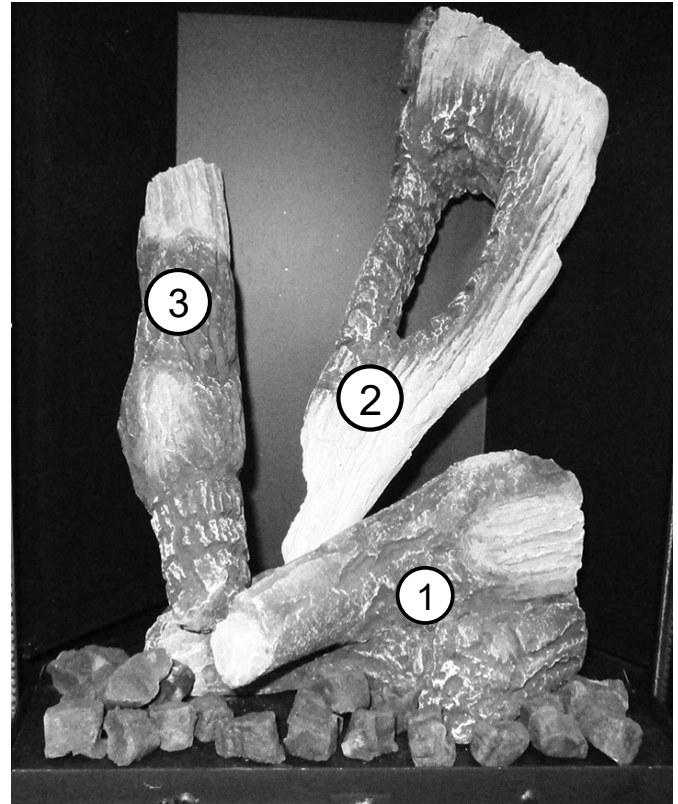
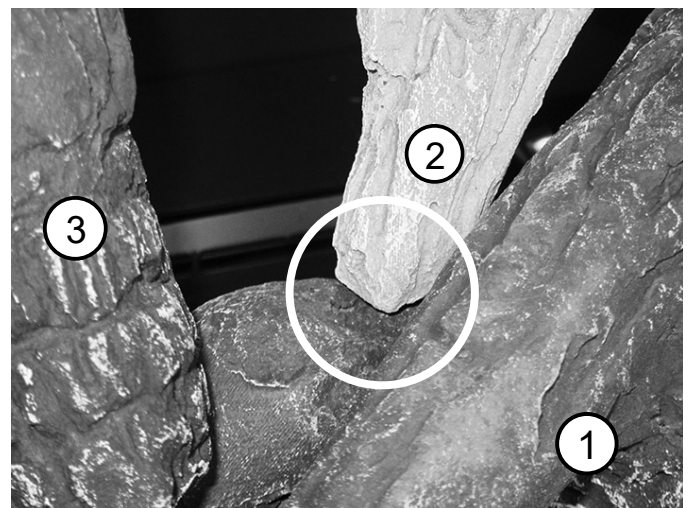

Figure 12.1. Fully assembled log set.
Figure 12.2. Rest the end of the Right Log in the small pocket on the Base Log.
- Right Log:** Rest the end of the Right Log #2 in the small pocket on the Base Log as shown in fig. 12.2. Rest the upper end of the log against the back corner of the firebox as shown in fig. 12.1.
- Left Log:** Engage the hole in the charred end of the Left Log #3 with the Base Log pin and lean it up against the back corner of the firebox. See figs. 12.1 and 12.2.